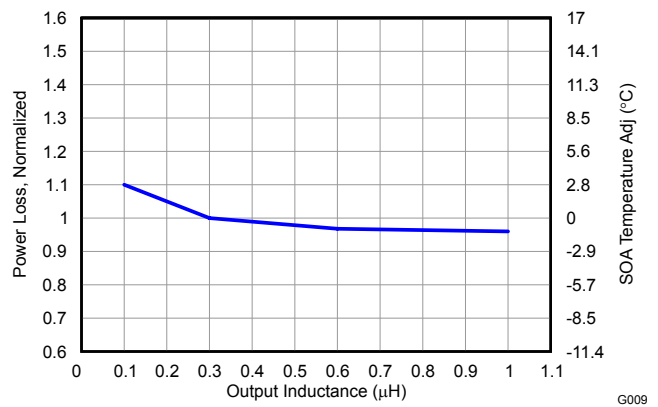

Figure 15. Normalized Power Loss vs Output Inductance
- Normalized Power Loss for output inductor \approx 1.06 (Figure 15)
- SOA adjustment for output inductor \approx 1.6°C (Figure 15)